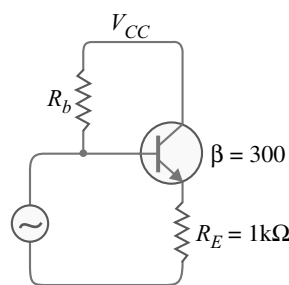

Fig. 11.45
7. In Fig. 11.45, if input and output impedances without feedback are  $2 \text{ M}\Omega$  and  $500 \Omega$  respectively, find their values after negative voltage feedback. [302 M $\Omega$  ; 1.6  $\Omega$ ]